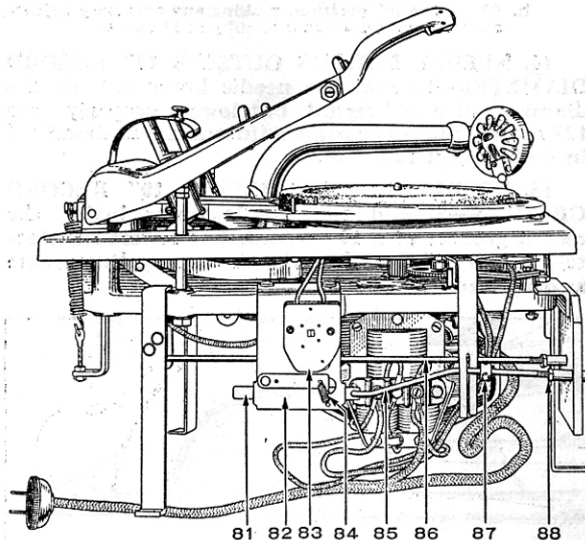

Fig. 12—Automatic Unit Side View
- d. Start switch position 83, Fig. 12, out of adjustment, preventing switch slide 81, Fig. 12, from tripping switch.
- e. Defective start switch 83, Fig. 12.
- a. Defective start switch 83, Fig. 12.
- a. Note that the condition is not caused by a wire between the reject rod collar 87, Fig. 12, and the fork portion of the trip lever.